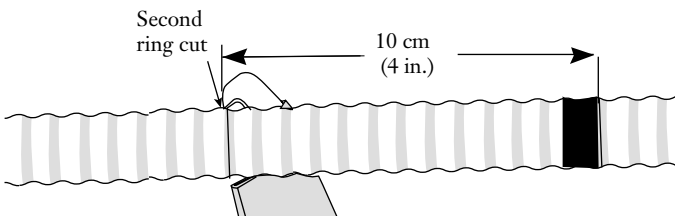

Figure 4
4.3 Make a second ring cut in the outer sheath 10 cm (4 in) past the tape mark (Figure 4).